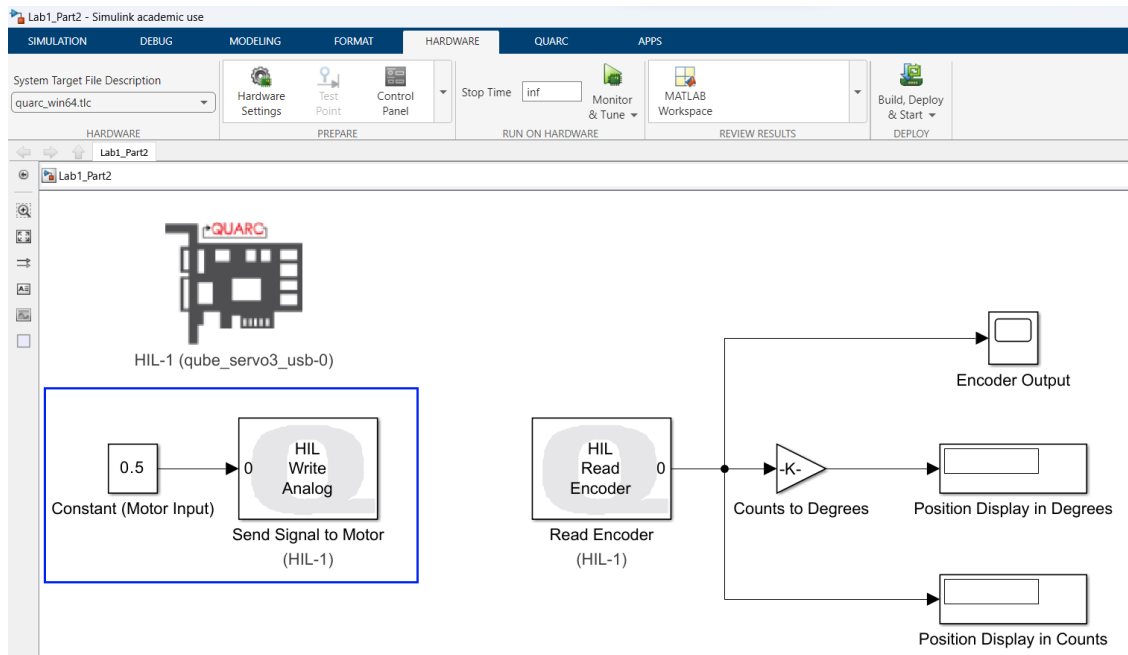

Figure 10: Target Simulink Model for Part 2.
1. For this part, continue working with the Simulink Model developed in Part 1. In fact, to run the motor through Simulink by giving a constant voltage signal, we only need to add two more blocks to the Part 1 model which are depicted within the blue box in Figure 10 (which shows the target model to be developed in Part 2). The next two steps discuss adding these blocks.
4. Wire the *Constant* block and the *HIL Write Analog* block together. At this point your model should look like Figure 10. Save your work by going to the *Simulation* tab and pressing the *Save* button or using the keyboard shortcut (Ctrl + S).